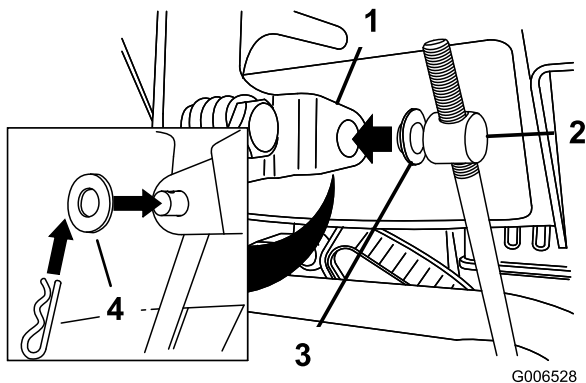

Figure 12
3. Remove the hairpin cotter and the outer washer from the trunnion on the upper end of the speed control rod (Figure 12).
Note: To make installation easier, leave the flat washer on the trunnion (Figure 12).
6. Lift up on the speed control rod and insert the trunnion into the hole in the speed selector lever (Figure 12).
- B. Disconnect the trunnion from the speed selector lever (Figure 12).
- C. Turn the trunnion downward (clockwise) on the speed control rod (Figure 12).
- D. Connect the trunnion to the speed selector lever (Figure 12).